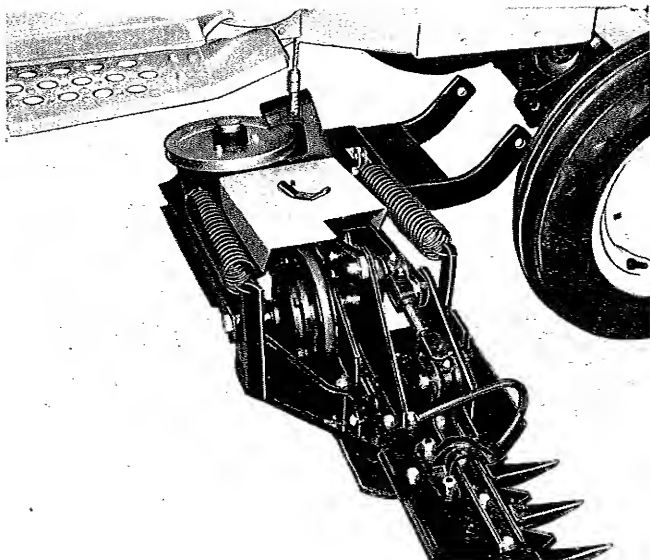

Figure 5. The mower in position under the tractor.
4. See figure 5. Slide the mower under the tractor from the right side and position it as shown. **CAUTION: BE CAREFUL WHEN HANDLING THE MOWER NOT TO TOUCH THE BLADES OR GUARDS AS THEY ARE VERY SHARP.**
12. See figure 5. The mower is now disconnected and can be removed from beneath the tractor.